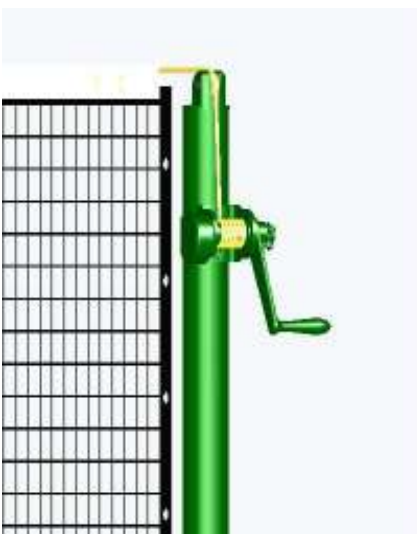

FIG.5
- Begin installing your net by hooking the loop end of the tennis net cable to the cable cleat on the deadhead post (FIG.4), On the winder head post (FIG.5), take the other end of the cable and hook the loop onto the pin on the reel assembly and begin winding. Continue to crank the post so that the net is a little over 3' above the surface at the center. *Be careful not to over-tighten!* Fit dowels/side stakes if available into side pockets of the net.